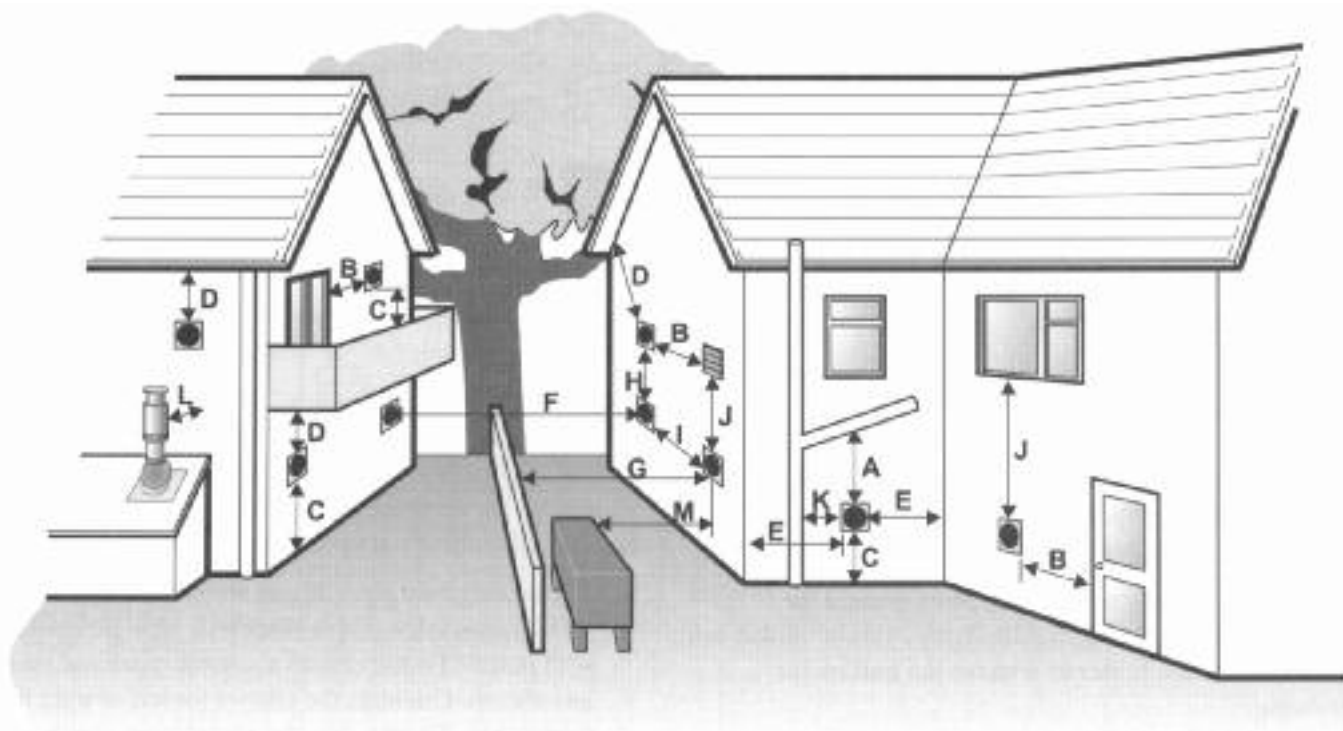

Fig. 10 - Clearances for Balanced Flues
- 2 The flue terminal must be at least 600 mm from any opening into the building, and 600 mm above any vertical structure or wall less than a horizontal distance of 750 mm from the terminal. See Fig. 10.
- 2 The minimum clearances for positioning the flue terminal are shown in Fig. 10.
Check that there are no obstructions in the way, that the terminal position complies with the dimensions given in Fig. 10 and then make the hole in the wall for the flue as shown in Fig. 16 (low level flue) or Fig. 17 (high level flue).